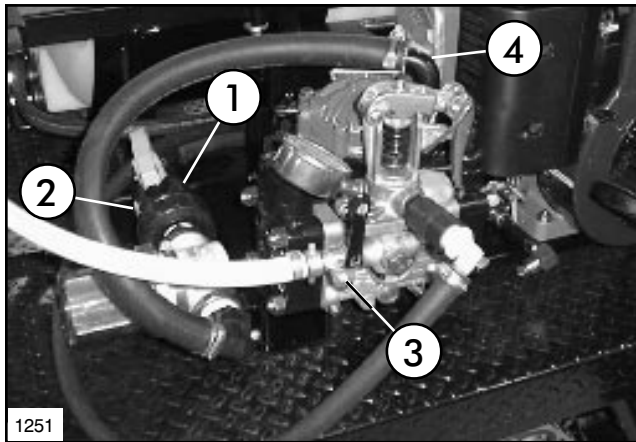

FIG. 5
2. Apply thread sealer and attach the 1-1/4" Ball Valve into the inlet port of the Suction Strainer using (1) 1-1/4" close nipple. See FIG. 5.
10. Attach other end of Spray Gun Hose to 1/2" Ball Valve in Pump. See FIG. 5. Wrap Spray Gun Hose around Hose Hooks when not in use.
11. Install (1) 1/2" x 90° Hose Barb into the front port Pressure Relief/Adjustment Valve using (1) 1/2" Close Nipple and Coupling. See FIG. 5.